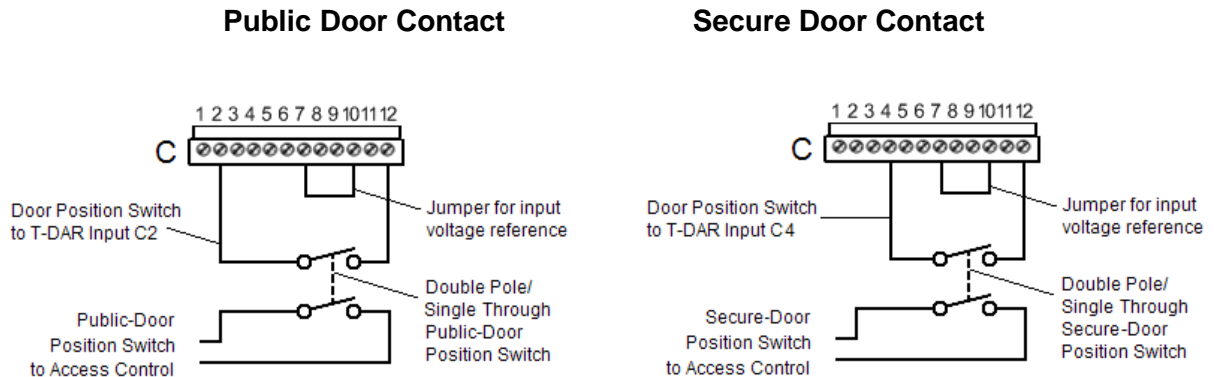

Figure 15 - Typical Configuration
5. Refer to Figure 15 for detailed examples of configuration.